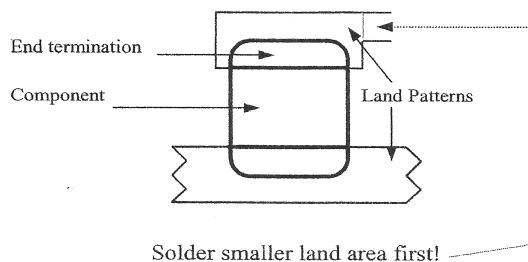

Figure 1
(E) Compare the size of the (2) or (4) land patterns. The smaller of the (2) or (4) should be soldered first. (See Figure 1 on following page)